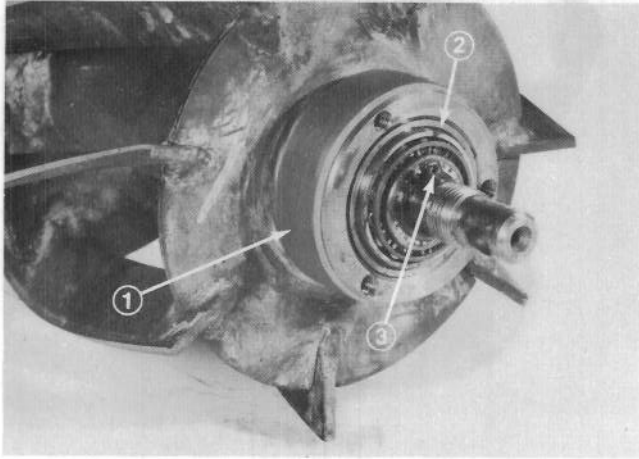

Figure 13
9. Inspect wear ring (Fig. 13), chain and sprockets for excessive wear (wear ring is pressed onto hub).
7. Remove retaining ring, bearing cone and bearing cup from drive end of reel shaft (Fig. 13).